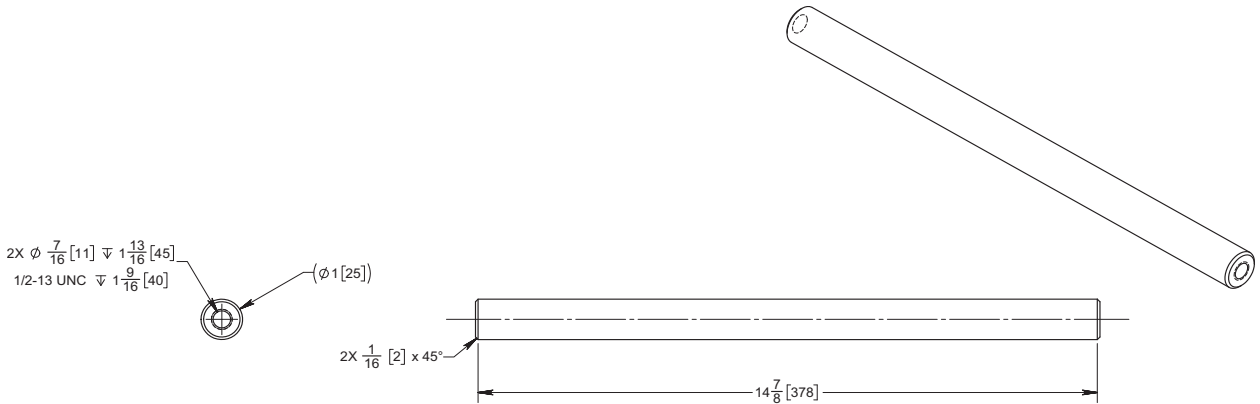

Figure 4: Item 2 (DT27000), 4140 Round Bar size 1 Ø x 15 (QTY 1)
6. Raw material cut for the pin (item 2) (P/N: DT27000) is shown in Figure 4.